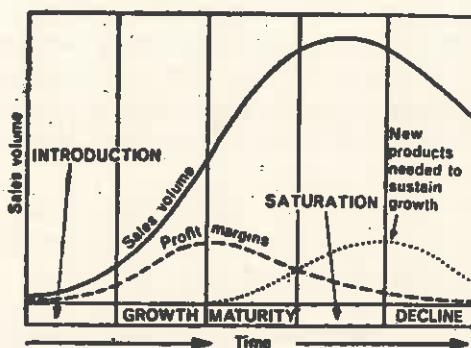

Fig. 31.11 Product Life-Cycle
- Emphasis on the *make-up of the product* is not only vital because of the need to sell benefits to potential customers, but also to take account of another key factor i.e. the *product life-cycle*. Studies have shown that most products pass through a series of stages - their life-cycle - from the time they are introduced until the time they are withdrawn. A product will typically pass through five major stages in its life. These are shown in the diagram below (Fig. 31.11)